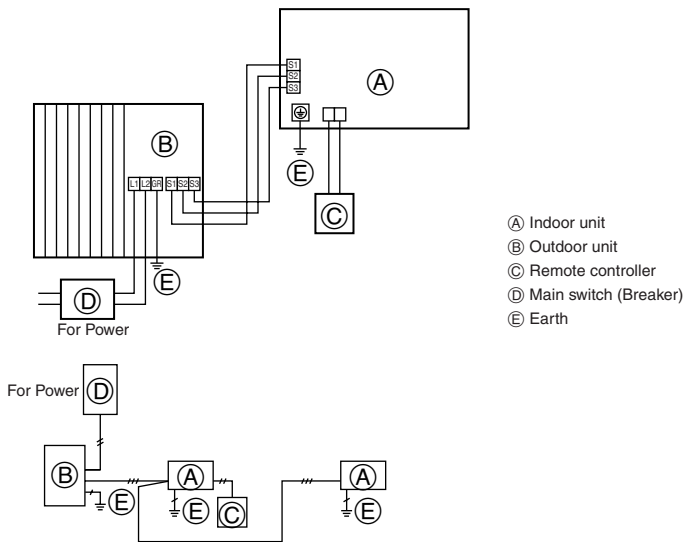

Fig. 6-1
### 6.1. Outdoor unit (Fig. 6-1, Fig. 6-2)
- ① Remove the service panel.
- ② Wire the cables referring to the Fig. 6-1 and the Fig. 6-2.